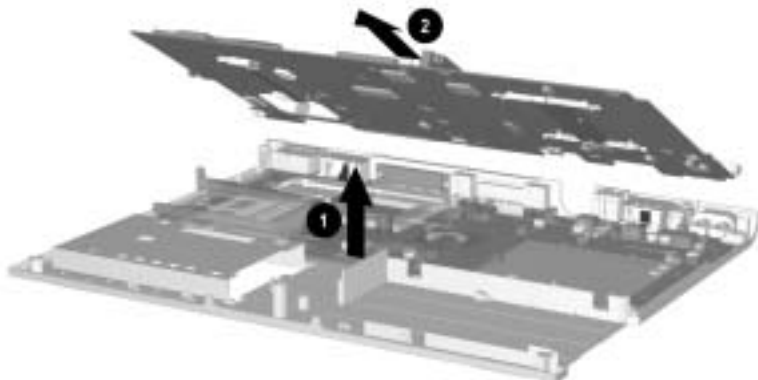

Figure 5-44. Removing the System Board
7. Lift the front edge of the system board until it rests at an angle ❶ (Figure 5-44).
8. Slide the system board forward ❷ and remove it from the base enclosure.